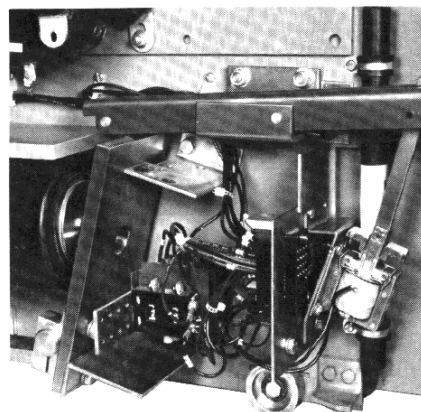

Figure 1
\* Latched contactor includes latching mechanism mounted on left hand side plate of contactor (see Figure 1, Page 8), and manual release handle (for separate mounting on door).
- Mechanical latch in Fig. 1